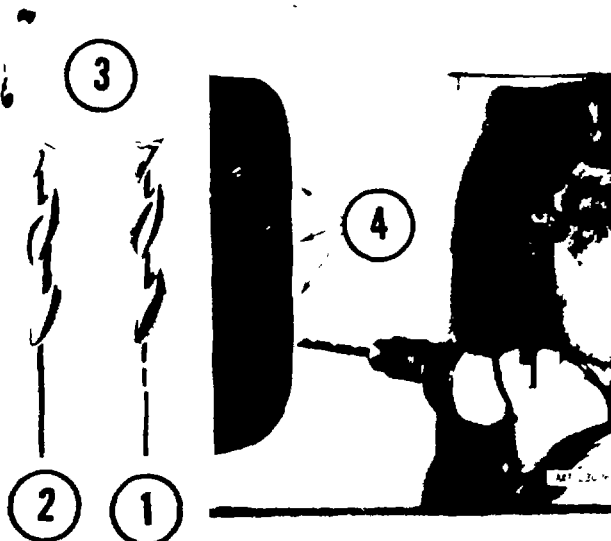

Fig. 37 Removing Cab Inner Corner Panel
The actual side panel removal requires the drilling out of spot welds which attach the side panel to other panels of the cab. Sheet metal drill bits should be used. These are drill bits, the ends of which have been ground for this special purpose. An example of a sheet metal drill bit as compared to a regular drill bit is shown in Fig. 37. When spot welds have been removed, a pneumatic chisel is then used to open seams which have been clinched together.
1. For access to back panel joint, remove cab inner corner panel. Remove trim strip between corner panel and inner roof panel and drill out spot welds (Fig. 37) around panel. Separate corner panel from back panel, inner roof panel and side panel assembly.